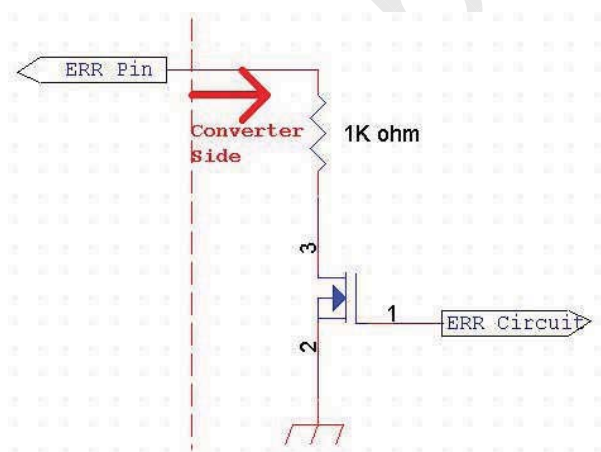

Fig. 2
Note (5) The EPWM interface that inserts a pull up resistor to 5V in Max Duty (100%), please refers to Fig.2.